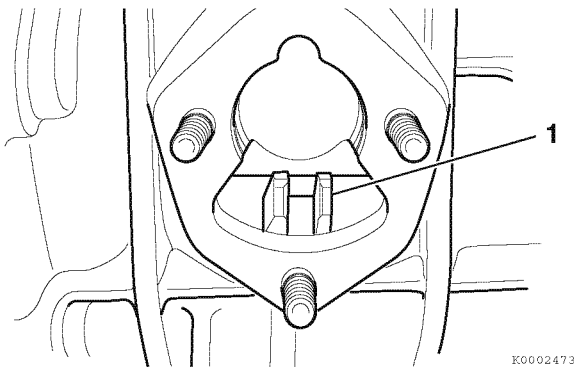

Figure 7-17
1. Adjust the throttle control so the governor lever (1, **Figure 7-17**) fork is positioned in the center of the fuel injection pump opening.